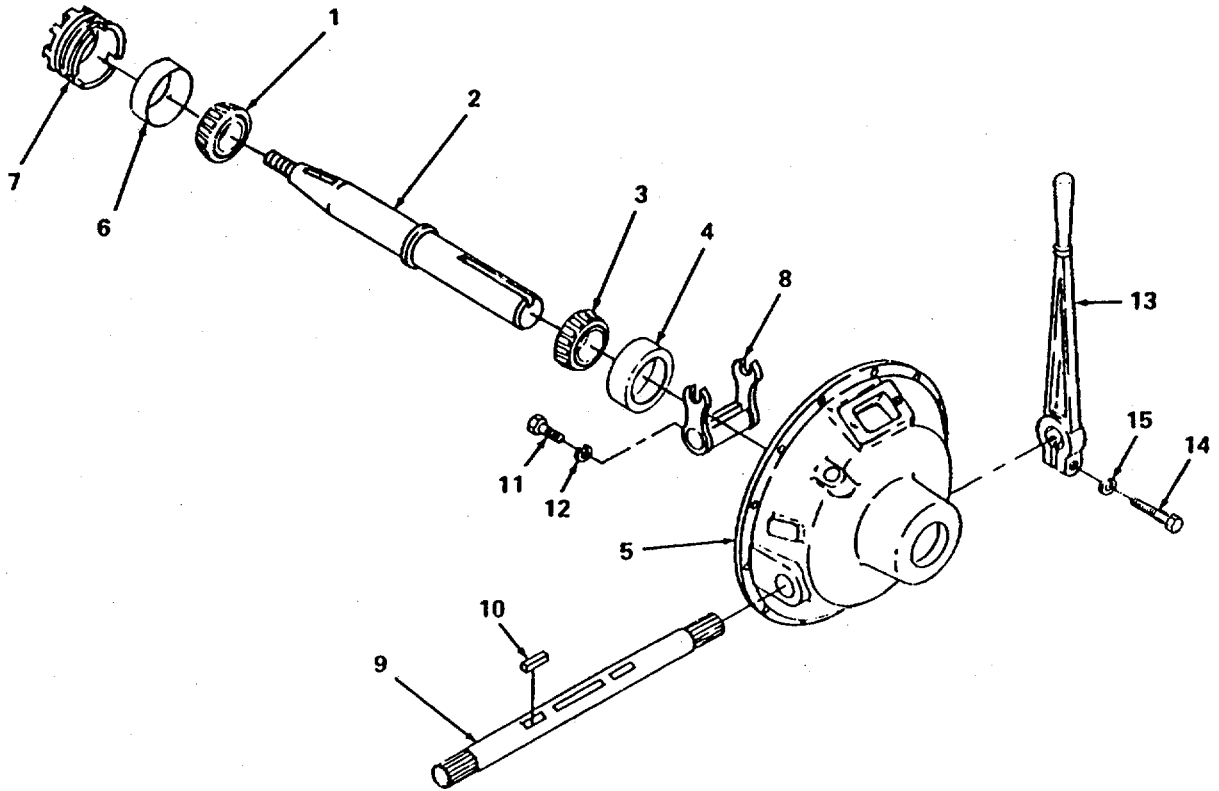

Figure 6-8. Shaft and Bearing Installation.
- (a) Lubricate inside diameter of bearing cone and position bearing (1, figure 6-8) on drive shaft (2) with wide end facing shoulder on shaft. Using press, seat bearing.
- (b) Lubricate inside diameter of bearing cone and position bearing (3) on drive shaft (2) with wide end facing shoulder on shaft. Using press, seat bearing.
- (c) Lubricate outside of rear roller bearing cup (4) and position cup in bearing bore inside housing (5) with back face of cup toward output shaft opening,